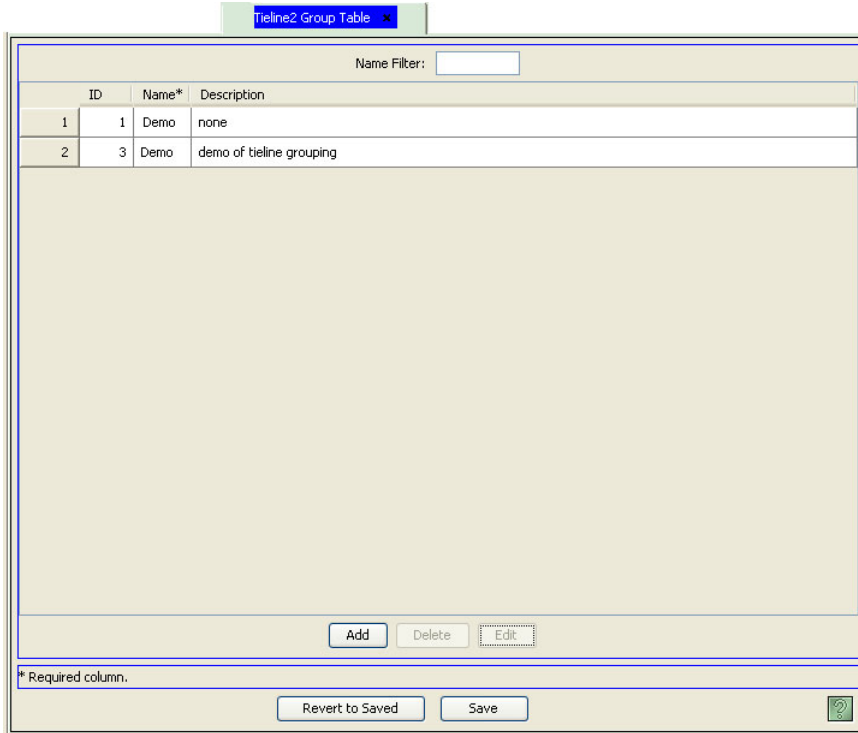

Figure 16-30. Tieline Group Table
- 1 From the Navigation area, select the 'Views' pane and then 'Tieline Group'. The 'Tieline Group' table appears, as shown in Figure 16-30.